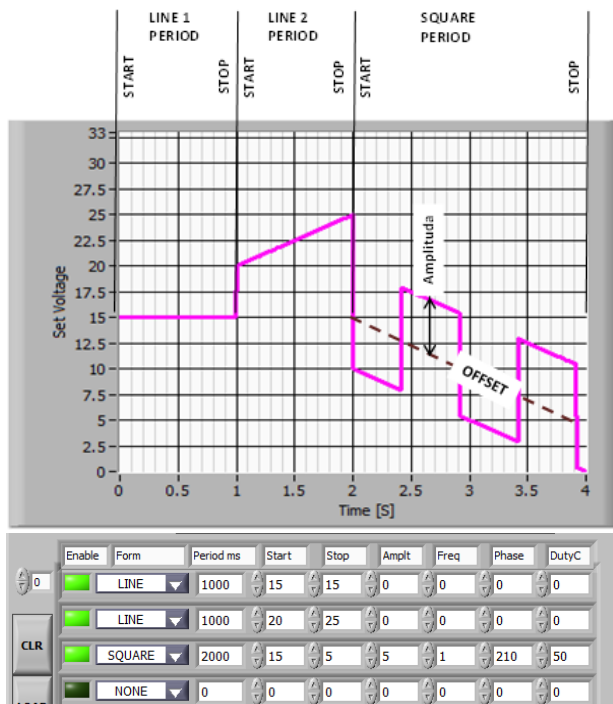

Figure 15 Waveform profile parameters
- 1.3.4. Set start and stop offset points of segment (for all forms). Refer to Figure 15